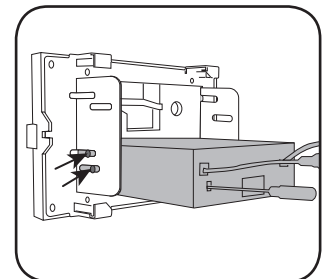

Fig. 1.19
3. Slide the radio chassis into the radio bracket and secure it with the hardware provided with the radio. (Fig. 1.19)